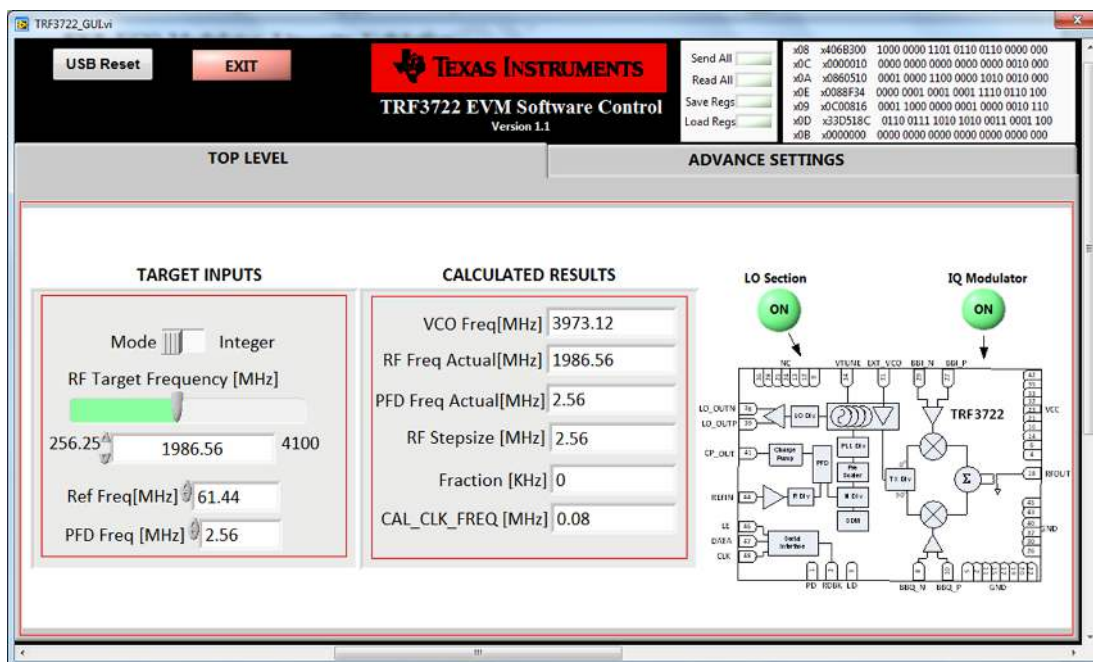
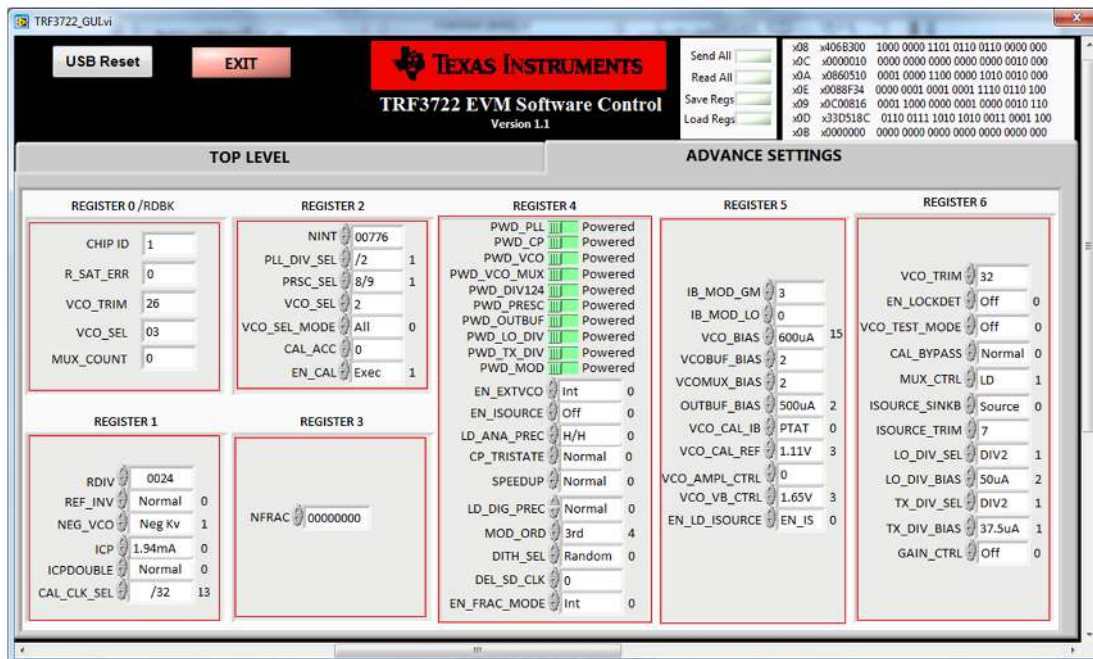

Figure 6. GUI Settings (a)
Figure 7. GUI Settings (b)
8. Set the GUI as shown in Figure 6 and Figure 7.
11. This is the typical current consumption with the GUI settings shown in Figure 6 and Figure 7, adjusting various bias settings in register 5 and register 6 change this current.